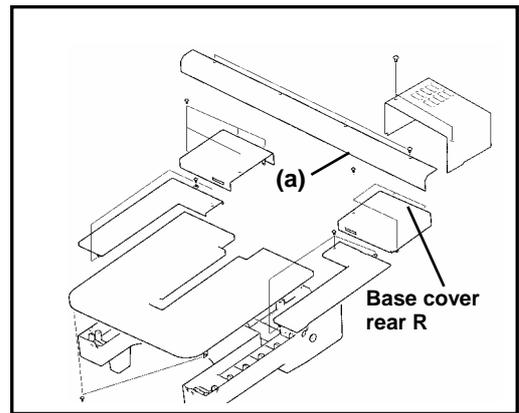

FIG.1
- (1) Remove four setting screws (a) and the base cover rear R. (Fig.1)